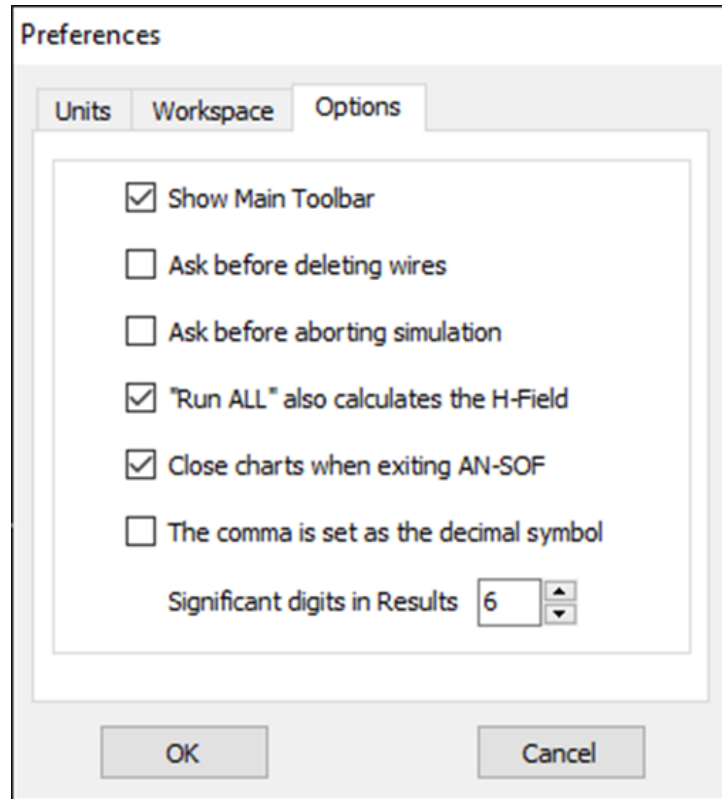

Fig. 3: Options page in the Preferences dialog box.
In the **Options tab**, check the **Show Main Toolbar** option to see this toolbar, Fig. 3. Two “Ask before...” questions can be set to avoid mistakes. If the option **“Run ALL” also calculates the H-Field** is checked, the near H-field will also be calculated after clicking on the “Run ALL” button. Here you can also choose to close the chart windows after exiting AN-SOF. Select the option **“The comma is set as the decimal symbol”** if you use the comma as decimal separator in your Windows(R) regional settings. The number of **significant digits** shown in results can also be set (this option does not modify the double precision used in the internal algorithms).